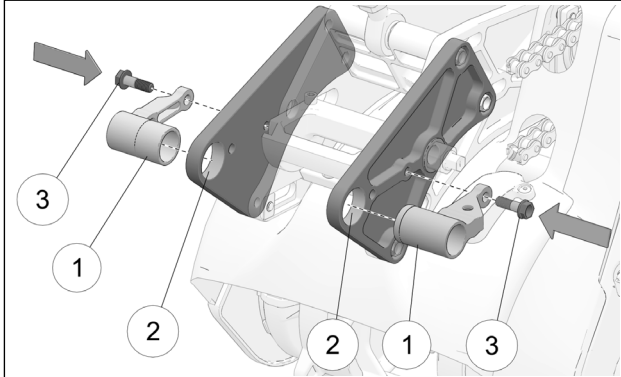

Figure 14
- Place mount adapters (1) in position outside of Bike Mount (2). Finger tighten the temporary M8x25mm assembly bolts (3) provided, at the small end of the adapters. See Figure 14.